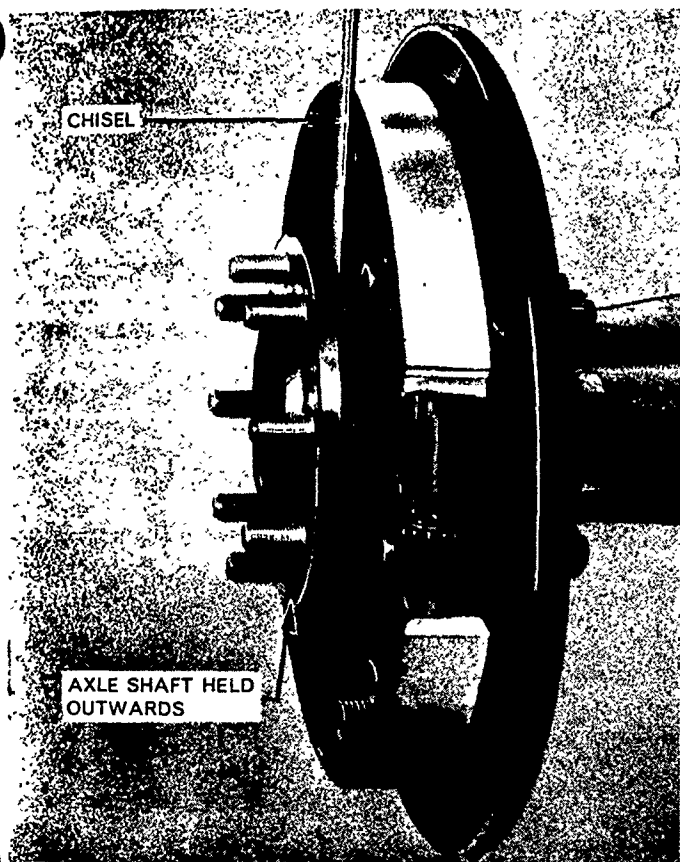

Figure 15
- a. Using a chisel or similar tool hold the axle shaft securely outwards, so that the cone and roller is fully seated in its cup, Figure 15.